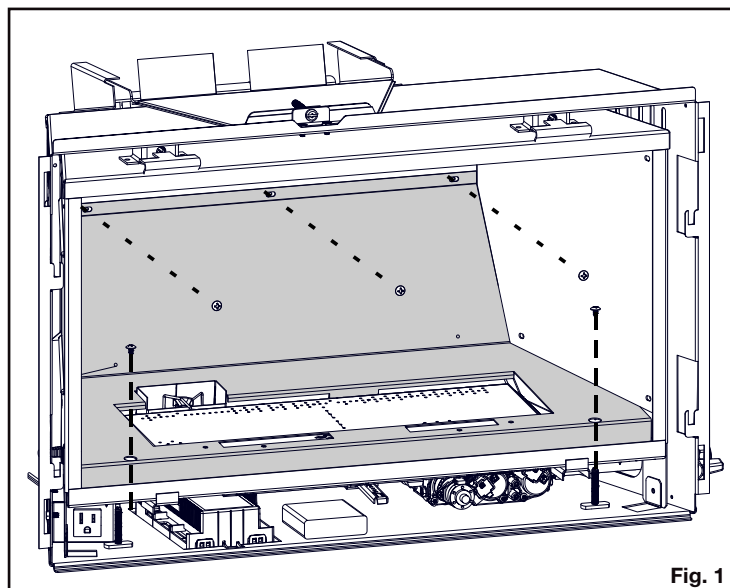

Fig. 1
- ☐ 3. Remove 5 screws that hold the media tray in place and lift the cover up and out (**Fig. 1**)